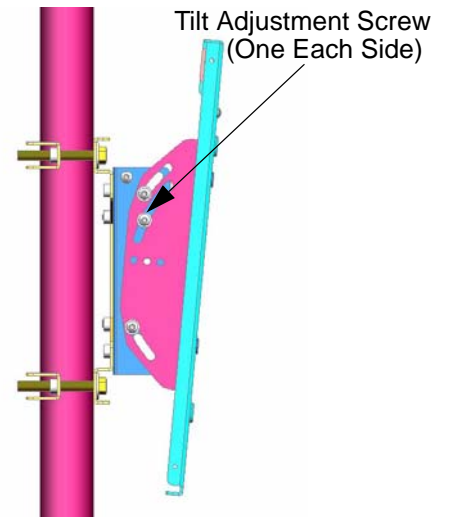

Figure 9. Tilt Adjustment Screw Location
1. Loosen tilt adjustment screws, adjust to desired tilt, and tighten tilt adjustment screws if necessary (see Figure 9).